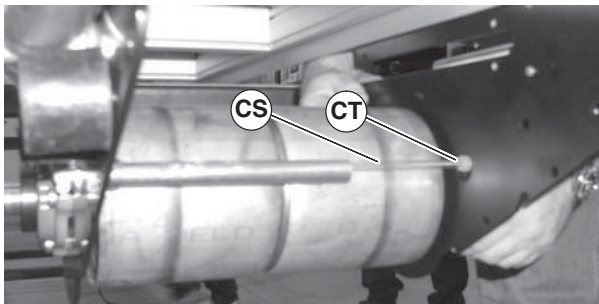

Figure 79
- Disconnect flexible air hose (Figure 79, item CS) from fitting (CT).